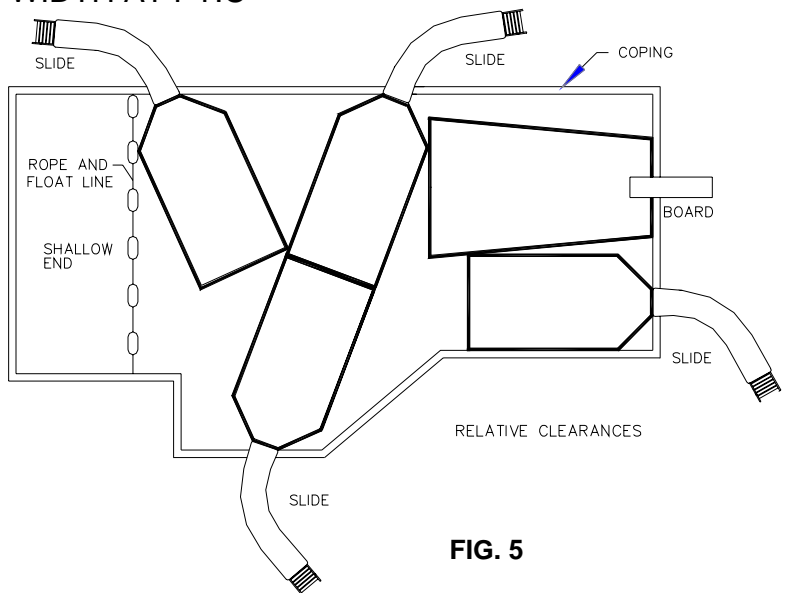

FIG. 5
- C. The minimum clearance area of a slide or diving board shall not intersect any coping or rope and float line as shown in **FIG. 5**. The minimum clearance area of a slide or diving board may intersect each other provided that they are not used simultaneously.